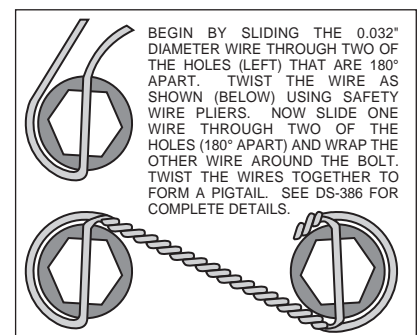

Figure 3. Safety Wire Diagram
- Identify the left and right caliper mounting brackets (1). Both brackets will be offset to the rear of the vehicle with the threaded inserts and the beveled bolt holes facing the outside of the vehicle. Apply red *Loctite*® 271 to bolt threads (2 and 5) before assembly of the caliper bracket (1) to backing plate face of spindle. Insert the two upper mounting bolts (2) and the lower mounting bolt (5) through the caliper mounting bracket (1). Place one upper mounting bracket spacer (3) over each of the upper mounting bolts (2). Slide a lower mounting bracket spacer (6) over the lower mounting bolt (5). Position the caliper mounting bracket (1) onto the spindle, slipping each of the three mounting bolts (2 and 5) through the spindle holes. The lower ball joint may have moved when the original bolts were removed. Re-alignment may be necessary for the lower bolt (5) to slide through. Install two lock nuts (4) on the upper mounting bolts (2) and finger tighten. Install one lock nut (7) on the lower mounting bolt (5) and finger tighten. Torque two bolts (2) to 47 ft-lb. Torque bolt (5) to 65 ft-lb. **NOTE:** Be sure the heads of the caliper bracket (1) insert nuts are facing outward toward the wheel.
- Install five new wheel studs (8) into the hub (9). Torque to 77 ft-lb. **NOTE:** There are two five lug patterns in the hub (5 x 4.00 and 5 x 4.50). Make sure of the correct hole pattern for the correct wheel application before installing studs into hub.
- Pack the large inner bearing cone (10) with high temperature disc brake bearing grease (available from your local auto parts store) and install into the backside of the hub (9). Install the grease seal (11) by pressing into the backside of the hub (9).
- Attach rotor adapter (12) to rotor (13) using six bolts (14). Torque bolts to 180 in-lb. Safety wire bolts (14) using standard 0.032 inch diameter stainless steel safety wire as shown in Figure 3. Please refer to Wilwood's data sheet DS-386 (available at www.wilwood.com/Pdf/DataSheets/ds386.pdf) for complete safety wire installation instructions. **NOTE:** The flat side of the rotor (13) lugs face toward the rotor adapter (12) with the dished side of the rotor adapter (12) facing away from the rotor (13).